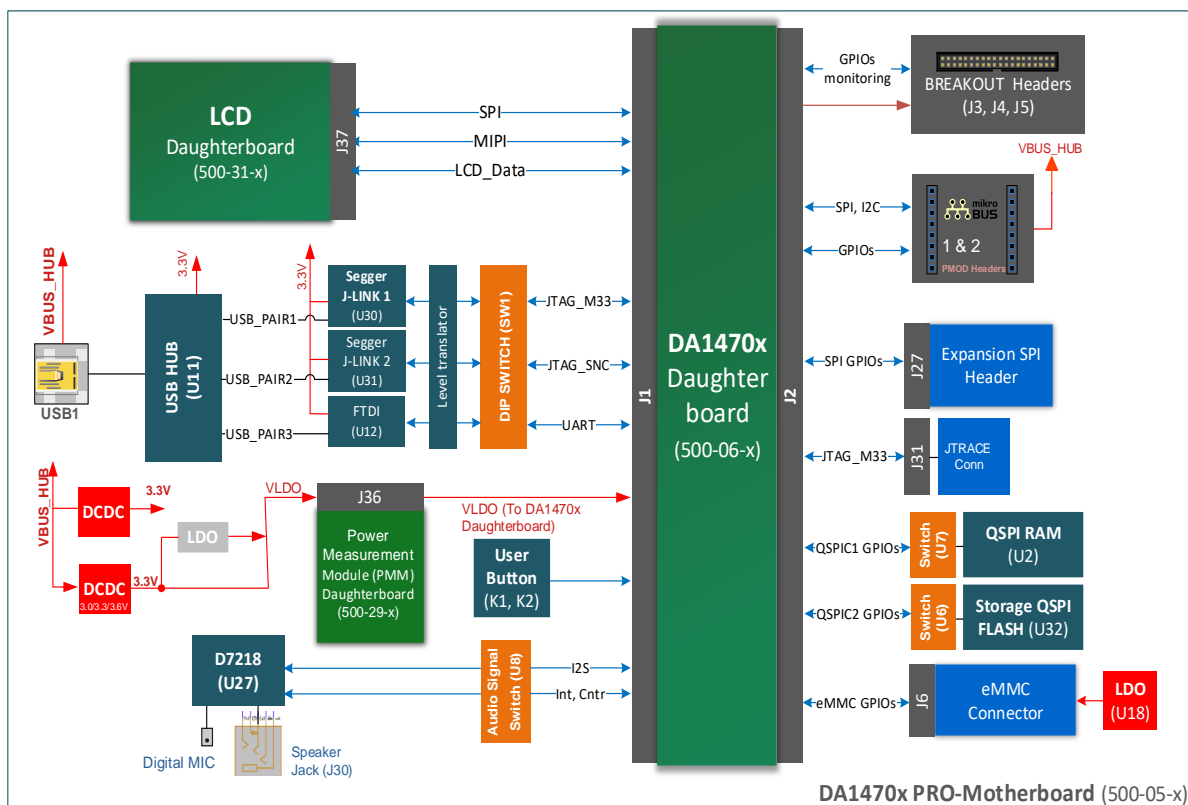

Figure 3: Engineering level, voltage & interface, PRO-Motherboard block diagram
- Breakout Headers (3 pcs 2x20pin) for monitoring GPIO and power signals, with markings of signal names on the PCB top silkscreen (Figure 3)